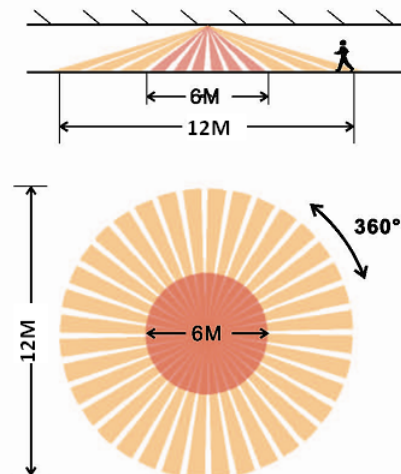

FIGURE 3
- The detector has a sensing angle of 360° and can detect up to 3 meters radius for micro motion and up to 6 meters radius for walk-across motion at the mounting height of 2.5 meters. (FIGURE 3)
A drill and a screwdriver are the needed tools for installation. Select a location for the unit based on the coverage angles shown in FIGURE 3.